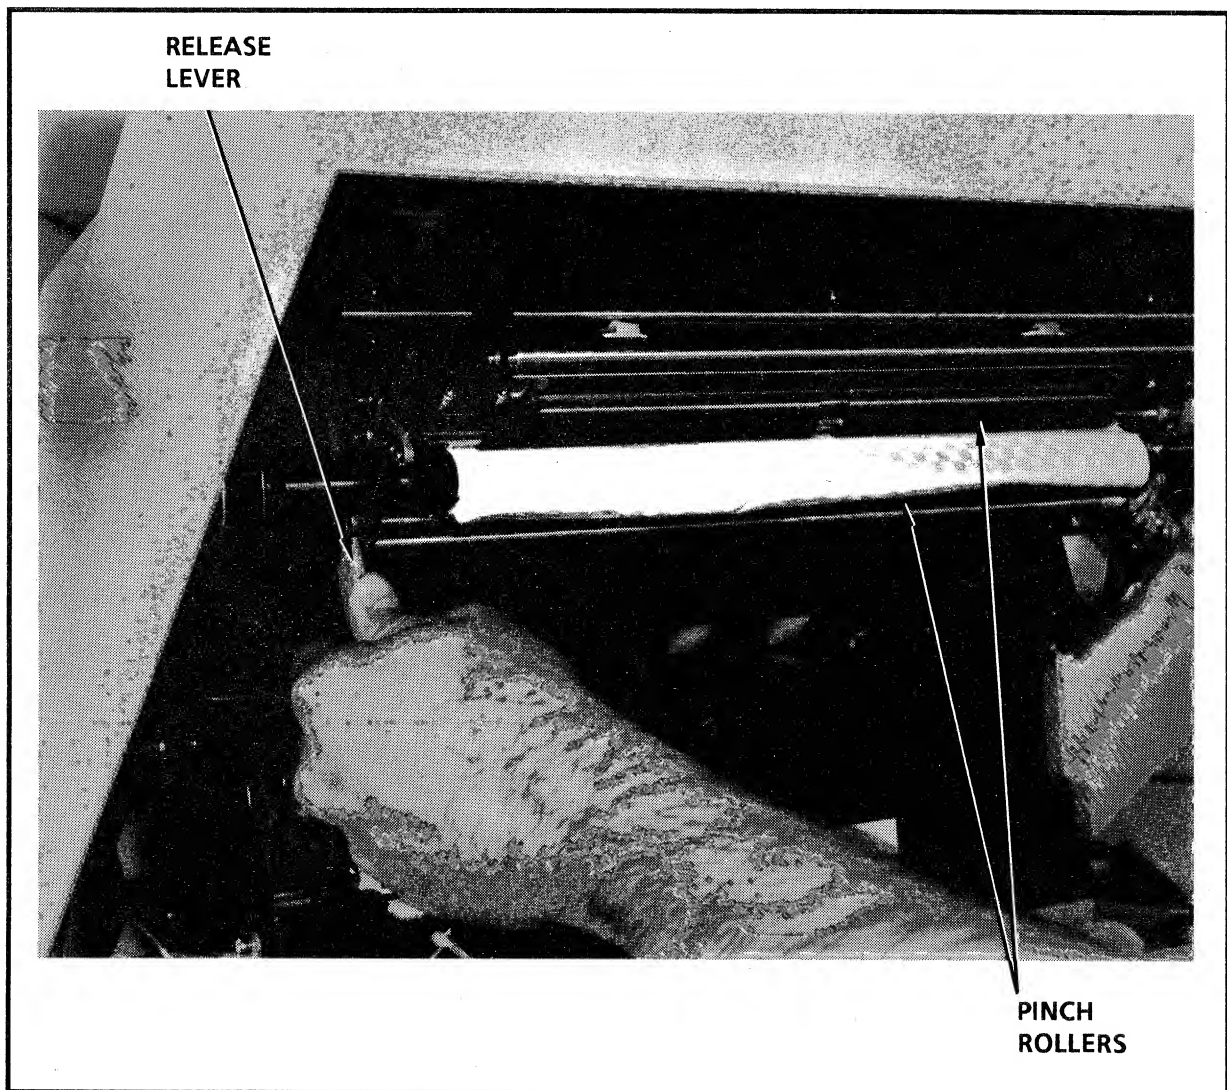

Figure 6-9. Opening the Pinch Rollers
3. Spread the pinch rollers by pushing down the pinch roller release lever in the direction shown in Figure 6-9.
3. Press the pinch roller release lever in the direction shown in Figure 6-9 to open the pinch rollers.